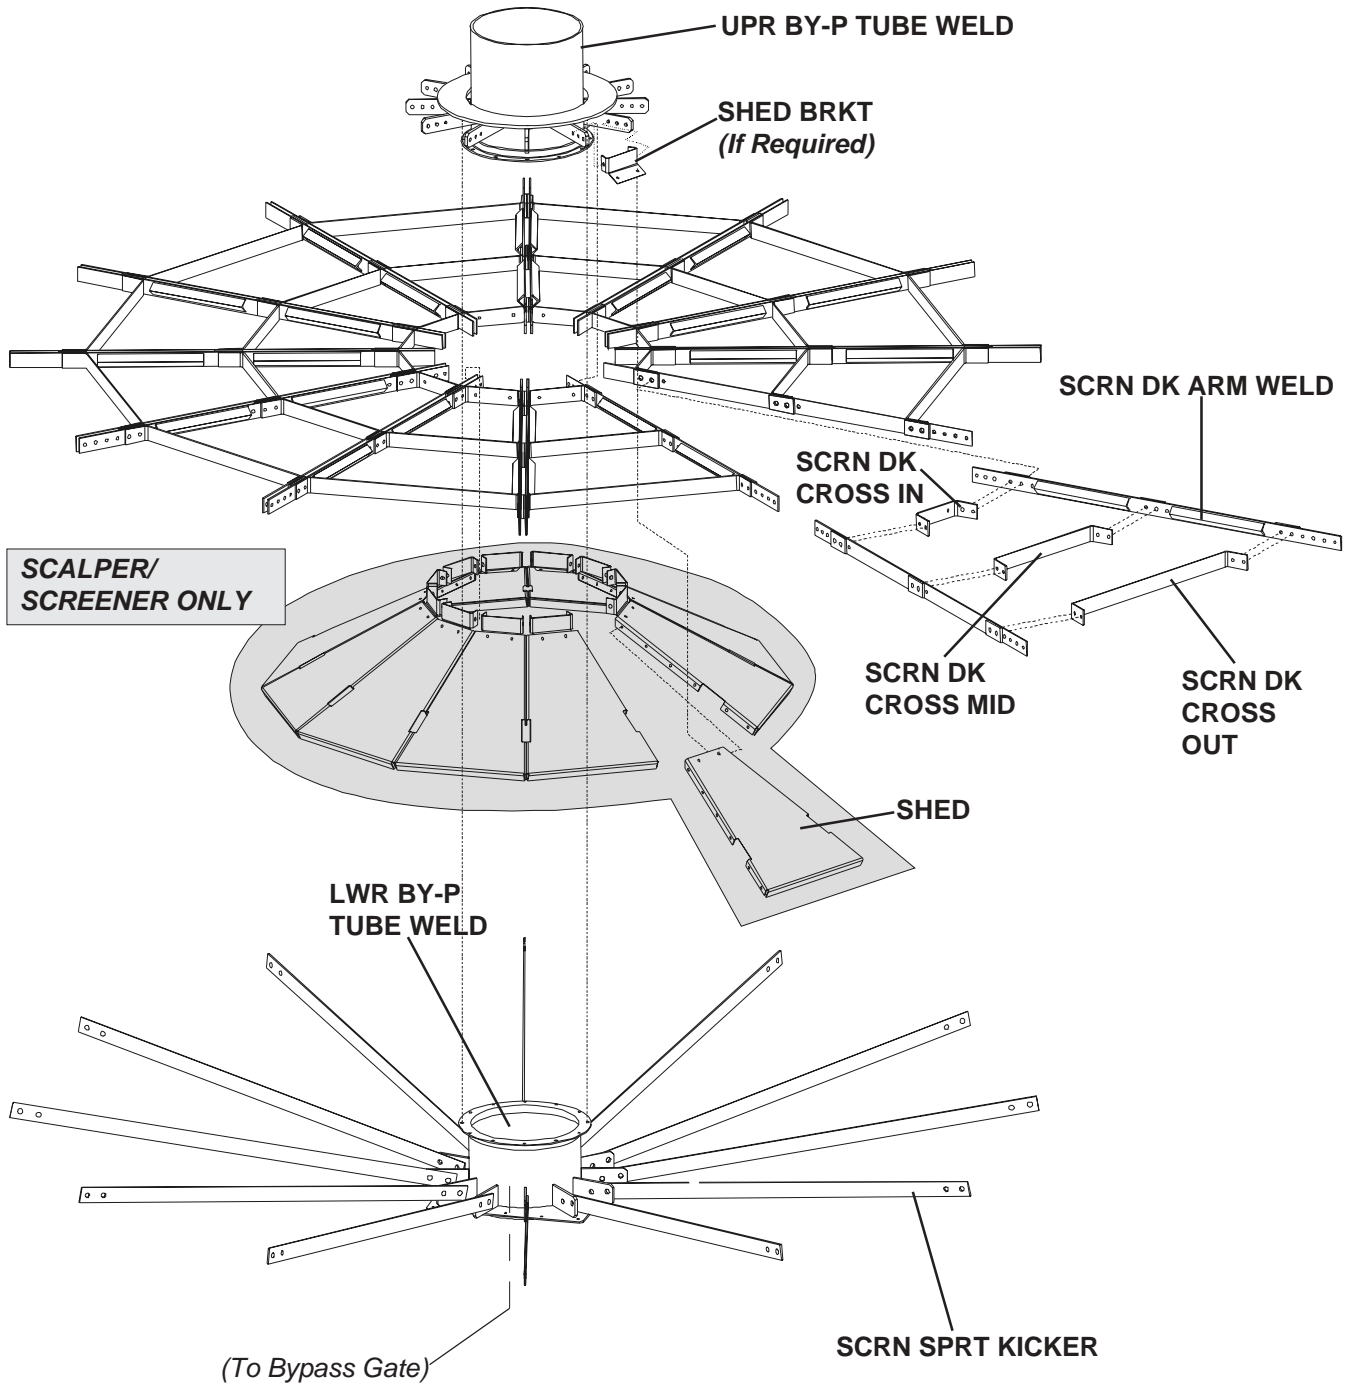

Fig. 6-1
If the unit is a Scalper/Screeners, line up hole on **SHED BRKT UPR BY-P TUBE WELD**. Attach together using a $1/2"$ x $1-1/2"$ bolts and tighten. (See Fig 6-1 & 6-3)
4. The **SCRN DK CROSS** bars slide between the Screen Deck Arms and fasten using the $1/2"$ x $2-1/2"$ Gr 5 bolts and flanged nuts. Cross bars install at each of the welded spacer locations on the Screen Deck Arms. (See Fig. 6-1 & 6-3.)
7. If the unit being assembled is a Scalper/ Screener, fasten the *SHEDS* to the previously installed *SHED BRKTs* using 3/8" x 1" Gr 5 bolts and flanged nuts. **Some units use a special sheet at the location of the Gate Drive Shaft. Connect each shed panel at the seams using the same bolts. Tighten the assembly bolts after all of the Sheds are installed. (See Fig. 6-1 and Photo)**